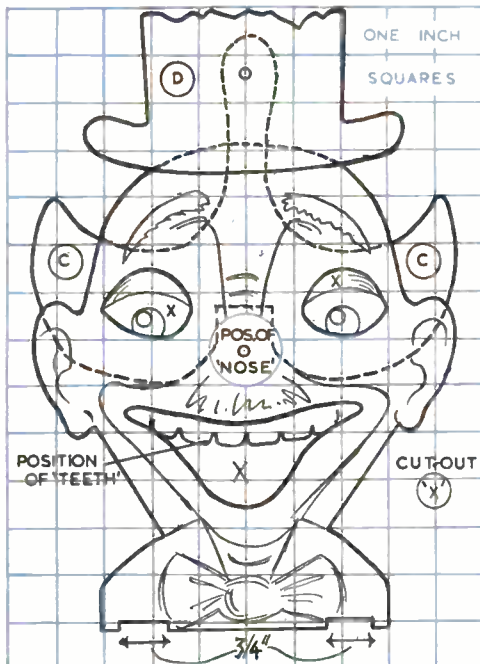

Fig. 1—The reduced scale pattern from which the face, hat (D) and moving eyes (C) units are copied full scale and transferred to wood for cutting out.
The pattern of the cut-out target head and moving eyes piece (C) and top-hat (D), is given in Fig. 1. Full-size patterns are obtained by copying the shapes over 1 in. squares. Plywood is recommended for all cut-out parts. Cut pieces (C) and (D) from plywood of about 1/4 in. thickness. The extending arm of piece (C) has a wood or cardboard washer glued to the front so that piece (D), pivoted on